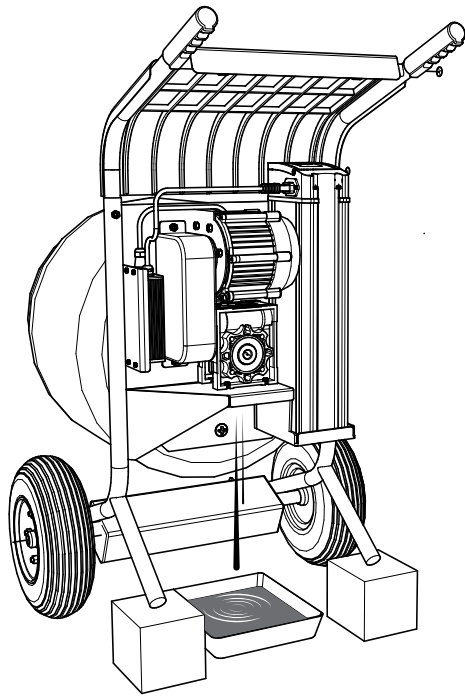

Figure 33. Draining Oil
5. Let oil completely drain into oil pan (Figure 33).